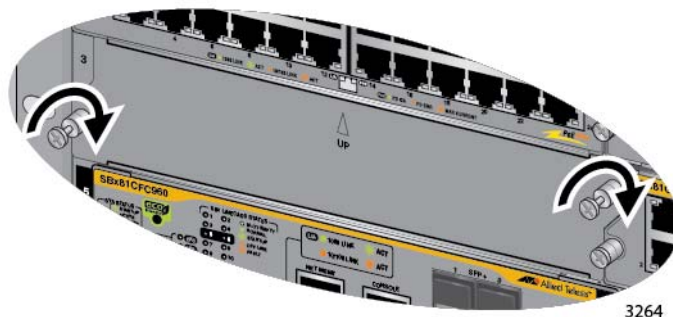

Figure 101. Tightening the Thumbscrews on a Blank Slot Cover
2. Finger tighten the two thumbscrews to attach the blank panel to the chassis, as shown in Figure 101.